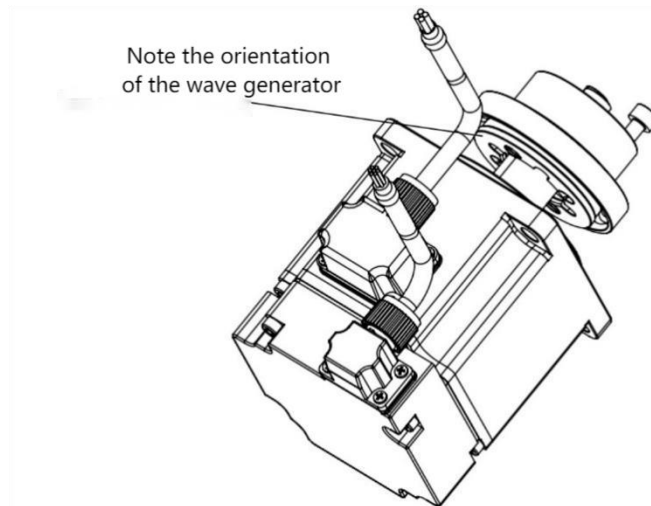

Figure 3-25 Remove the motor fixing screws
Step 6 After replacing the new motor, install the wave generator into the motor shaft as shown in Figure 3-25, and pay attention to the orientation of the wave generator boss.